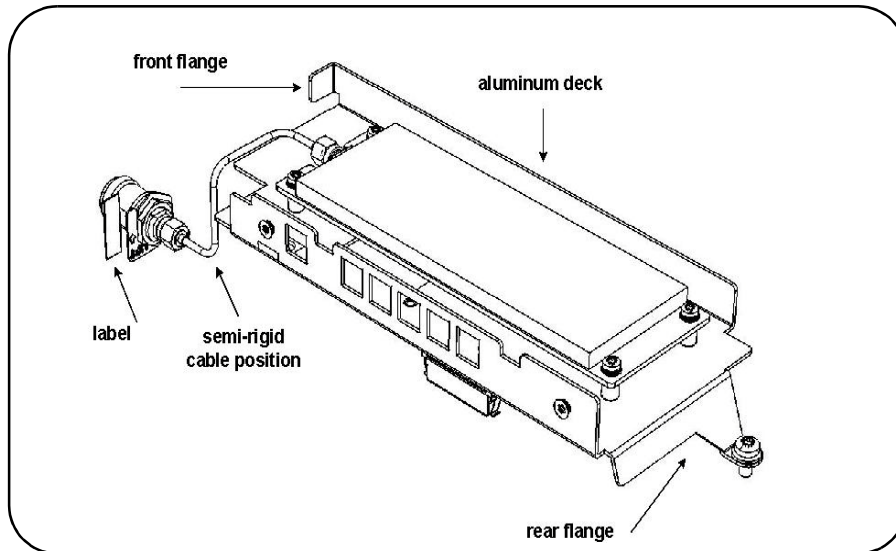

Figure 18. 53220A/53230A Option 106/202.
3. Assemble the parts in the Option 106/115 package as follows (Figure 18):
13. Connect the supplied semi-rigid cable to the SMA connector on the connector-adapter. Finger-tighten the connector so that the cable is positioned to connect to the Channel 3 assembly as shown in Figures 18 and 22. Do not tighten the nut with a wrench yet.